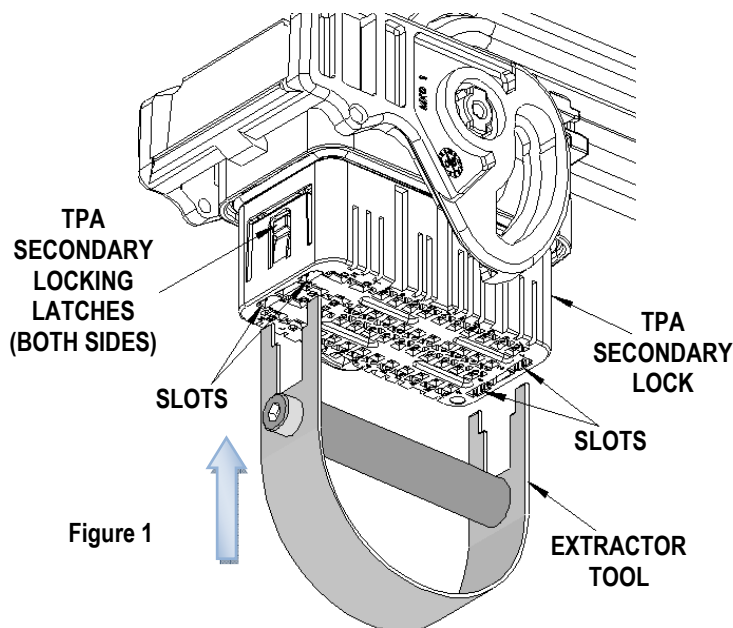

Figure 1
1. Insert the extractor tool into the (2) side slots of the (TPA) secondary lock on each sides until it stops. See Figure 1.